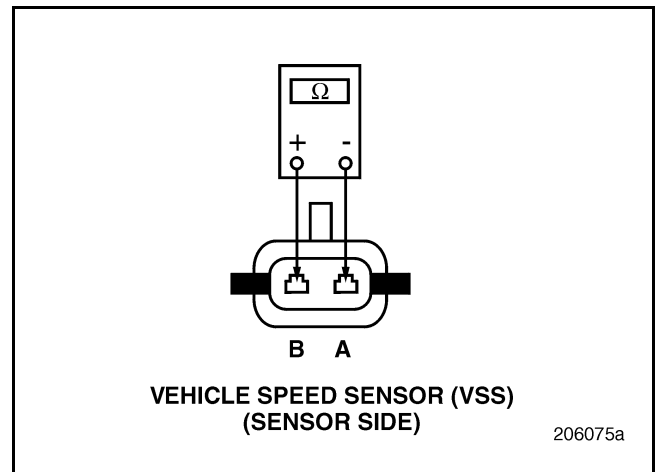

Figure 438
3. Measure the resistance across the terminals on the sensor side of the connector (see Figure 438). Compare the measurement to the range given for the appropriate transmission.